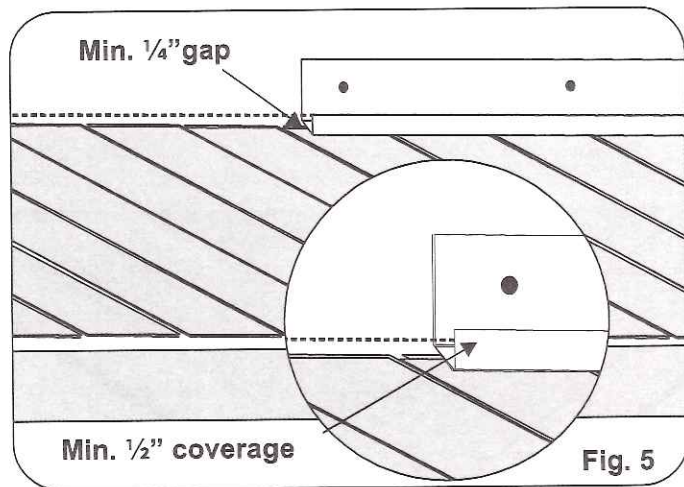

Fig. 5
- In certain situations, it may be necessary to remove a bottom section from of the panels to accommodate variations in the first course such as porch floors, etc. In these situations, where the bottom lock is removed, the cut edge of the panel(s) must be covered by trim. Celect Finish Trim can be used (Fig 4) or Custom trim can be fabricated with aluminum trim sheet. If trim sheet is used, keep in mind that the face of the channel or trim only needs be wide enough to cover the cut edge of the panel by 1/2" (Fig 5).